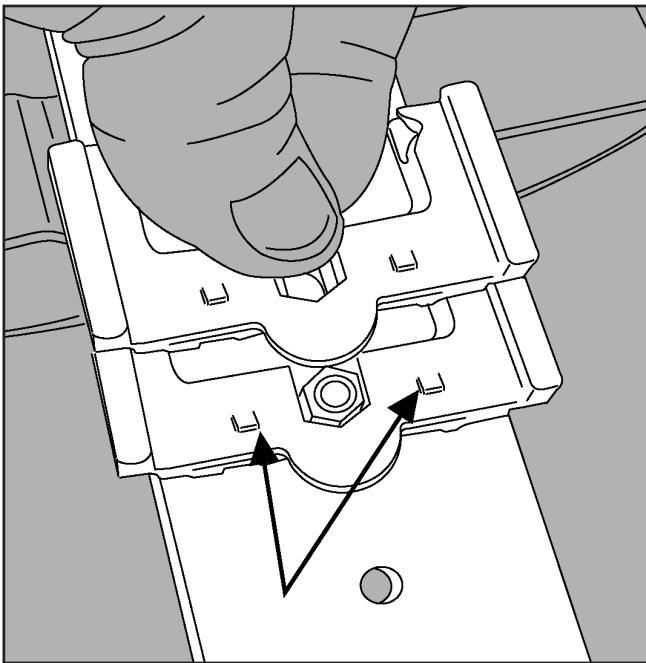

Figure 23
23. To stack additional trays, first add another SLIDE-N-LOCK bracket to the one fitted to the mounting plate. Slide into position until the locking tabs engage. Additional units can be added up to the recommended SLIDE-N-LOCK splice tray capacity. (Figure 23)